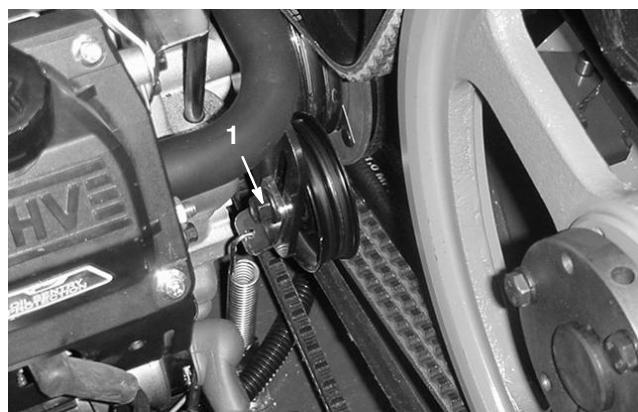

Figure 58
3. Loosen the pump belt idler bolt just enough to allow movement within its adjustment slot (Fig. 58).